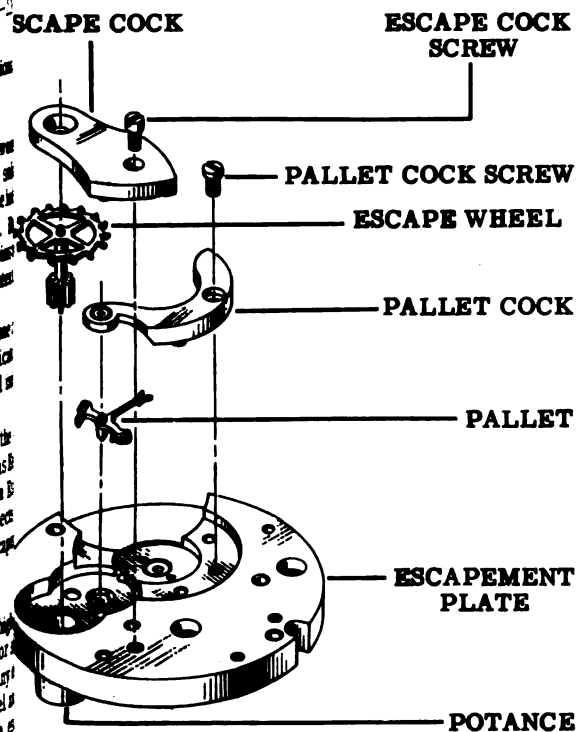

Figure 74—Elgin Escapement
A. There are separate pallet and escape cocks on the Elgin escapement, each being held in position by its own mounting screw. See Fig. 74.